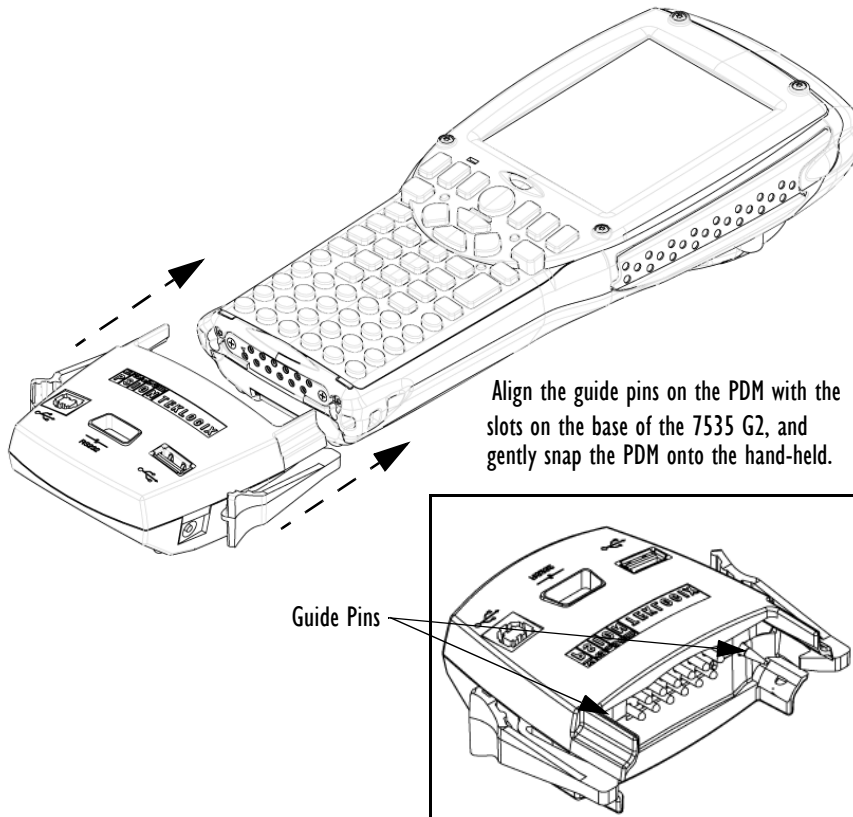

Figure 6.1 Attaching The PDM To The Base Of The 7535 G2
- Gently snap the PDM into place on the base of the unit. Figure 6.1 on page 225 provides a visual representation of how to secure the PDM.